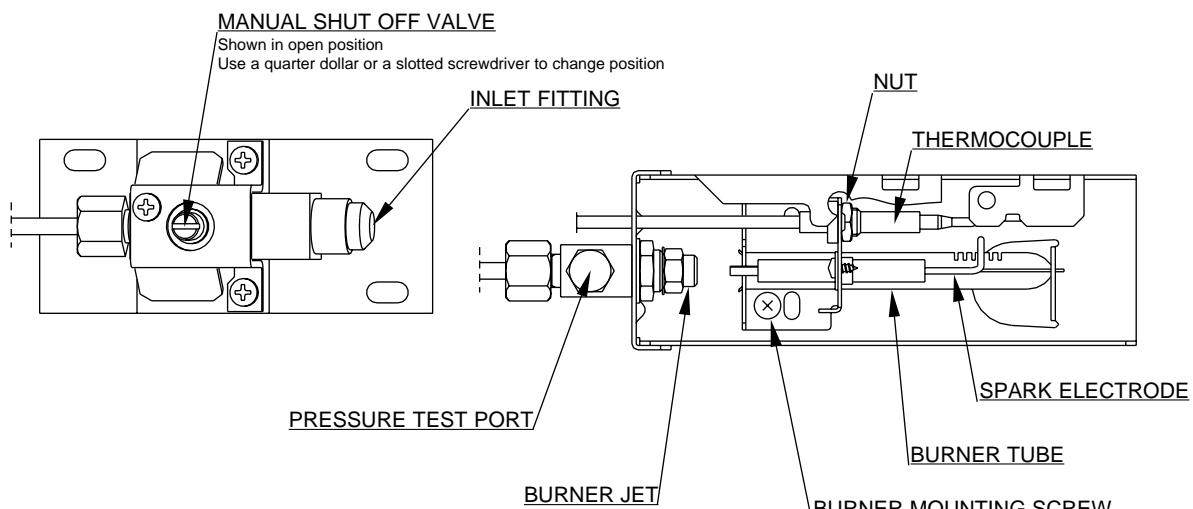

FIG. 11
C. The LP gas pressure should be checked and the main regulator readjusted if pressure is incorrect. The correct operating pressure is 11 inches of water column. The correct place to take the LP gas pressure is at the test port just ahead of the burner jet. (See FIG. 11).
3. Turn manual shutoff valve to OFF. (See FIG. 11).
6. Remove the burner mounting screw and remove the burner assembly. (See FIG. 11).